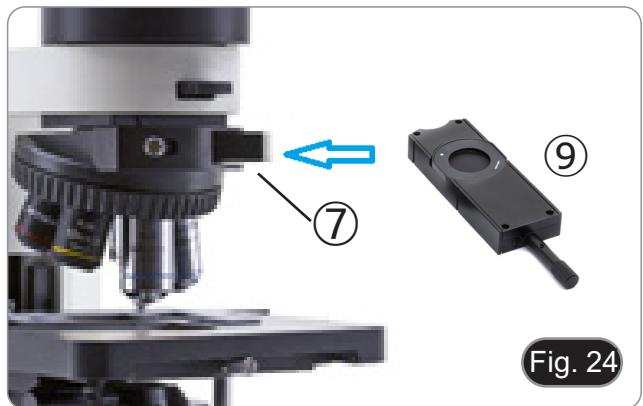

Fig. 24
6. Once the maximum darkening is achieved, remove the slider from the nosepiece, remove the analyzer from the dummy slider and insert it into the DIC prism. Now insert the DIC slider ⑨ into the slot ⑦. (Fig. 24)